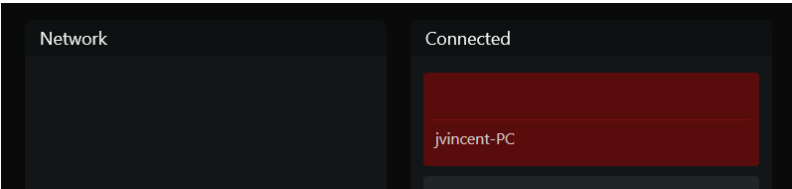

Figure 24. Workstation offline
**Offline** A connected workstation can become *offline* if WSControl was shut down properly on that workstation (indicated by a red rectangle as shown in Figure 24).